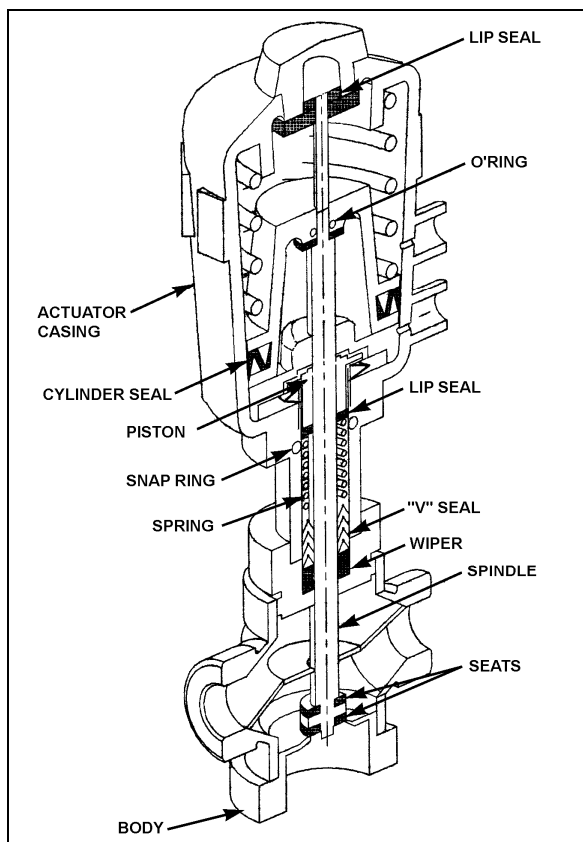

FIGURE 44: PNEUMATIC WATER VALVE
2. The water valve need not be removed from the line. Unscrew nipple, the actuator casing, tube, spindle and closure member can be removed (Fig. 44).
2. Tighten the nipple in place in the body cavity as per figure 44. Fasten pilot solenoid valve to the pneumatic water valve. Reconnect air supply pressure and electrical current to the pilot solenoid valve.